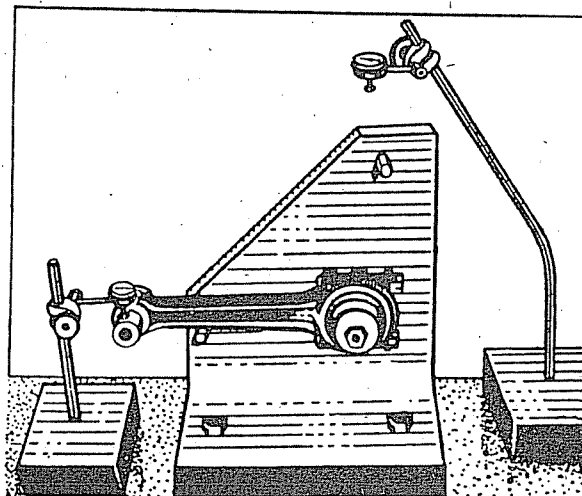

Fig. 10—Checking alignment of Connecting Rod (horizontal).
- (4) The gudgeon pins are in alignment with the big end bearings; this should be checked in two directions as shown in Figures 10 and 11.
- (10) When the above has been carried out, dismantle the rods again and fit the bearing shells to the crank pins, taking care a good marking is obtained.